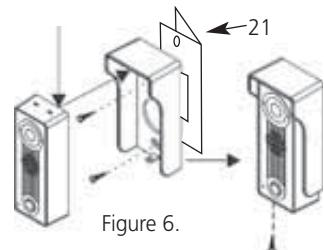

Figure 6.
Step 1. Mounting the doorbell camera onto the door frame (figure 6).
- In case you are using the optional corner bracket (21) then you need to mount that first onto the door frame and then mount the sun/rain cover using the supplied screws.
- Pass the power cable through the hole in the sun/rain cover and through the door frame, and then mount the camera onto the sun/rain cover by placing the top end of the camera into the lugs of the sun/rain cover (see figure 6).